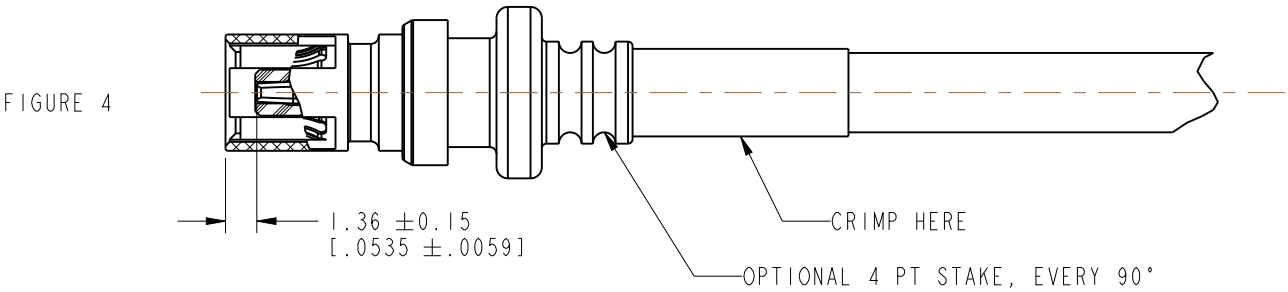

FIGURE 4
4. OPTIONAL LEONI DACAR 462-2 CABLE PROCESSING MAY REQUIRE ADDITIONAL STAKING OPERATIONS FOR ENHANCED RF PERFORMANCE ABOVE 1 GHz. SEE FIGURES 4 & 9 - STAKE TO ACHIEVE INTERNAL BARREL ID 1.40mm. CONTACT FACTORY FOR ASSISTANCE.